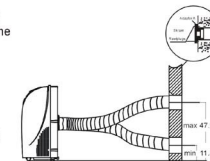

Fig.9
2. Install the adaptor A onto the wall by using 4 wall plug and screws, be sure to fix thoroughly. (See the Fig.9)